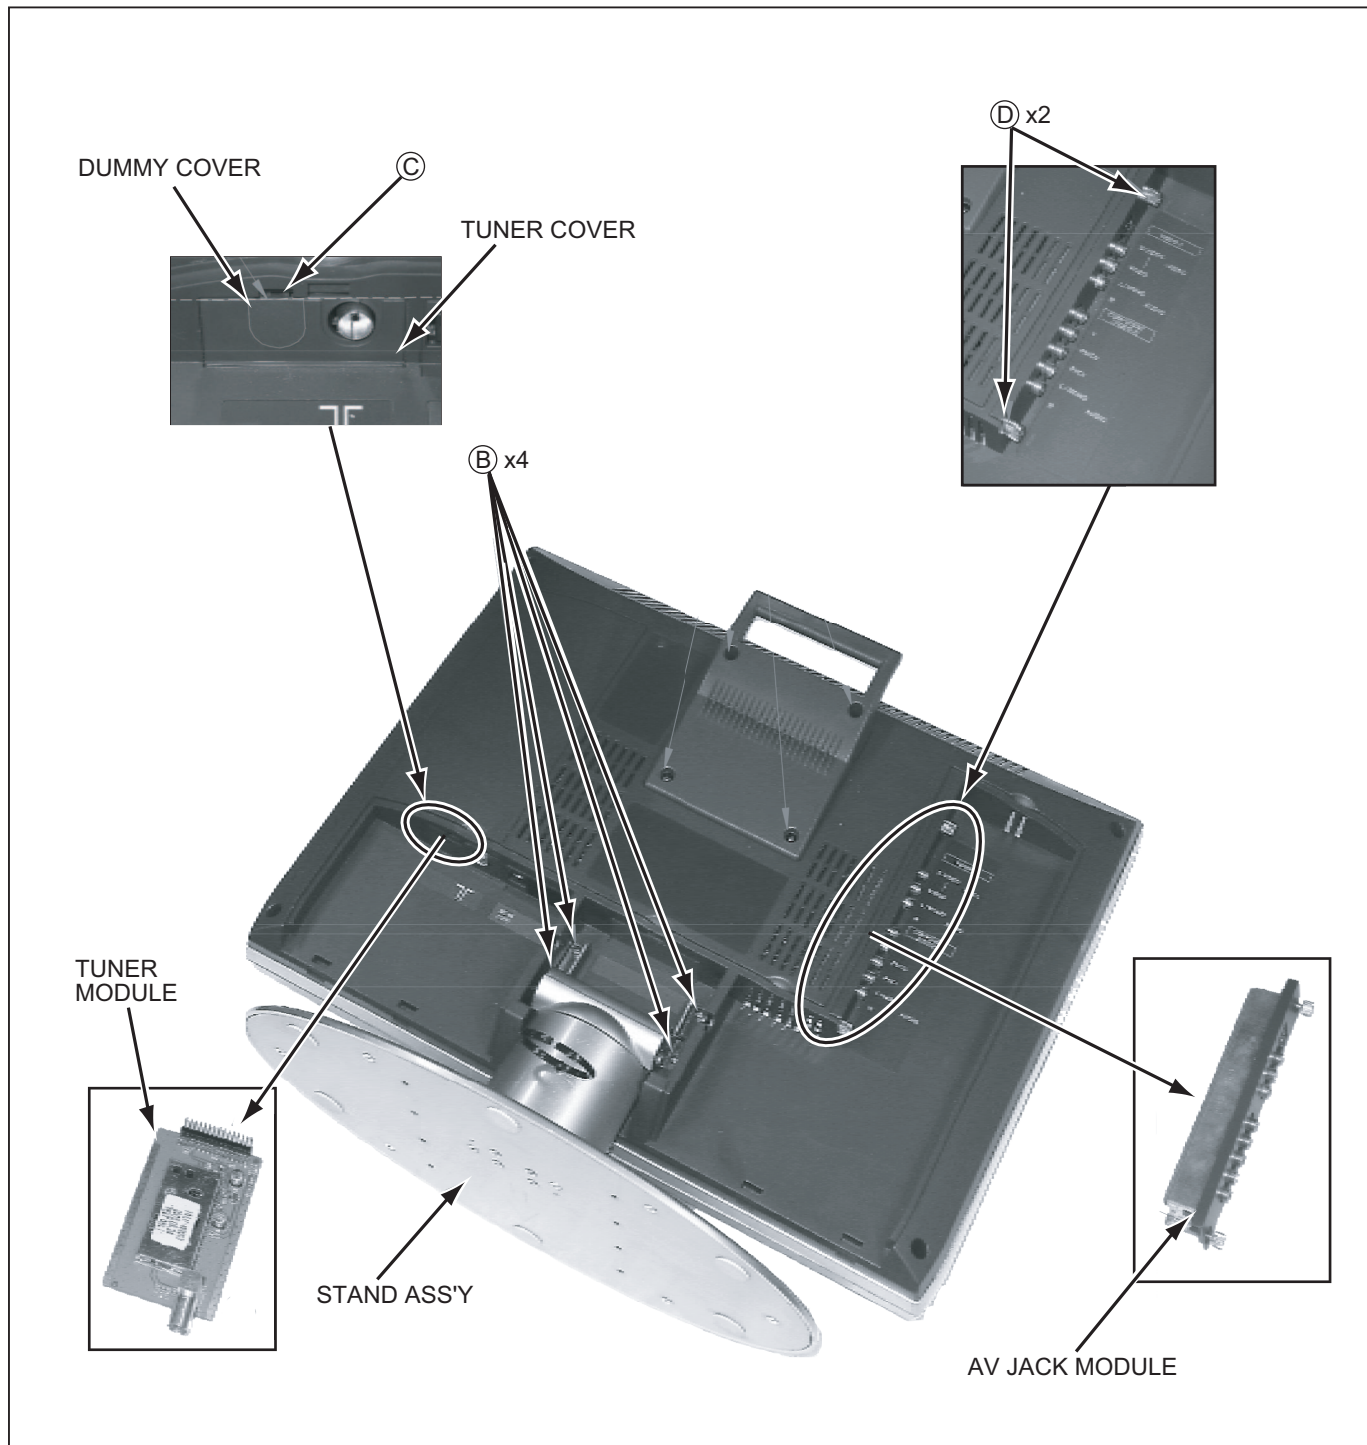

Fig.2
3.1.2 REMOVING THE STAND ASS'Y (Fig.2)
(1) Remove the 4 screws [B] and remove the STAND ASS'Y.
3.1.3 REMOVING THE TUNER MODULE (Fig.2)
- Remove the CABLE COVER (R).
3.1.4 REMOVING THE AV JACK MODULE (Fig.2)
- Remove the CABLE COVER (L).